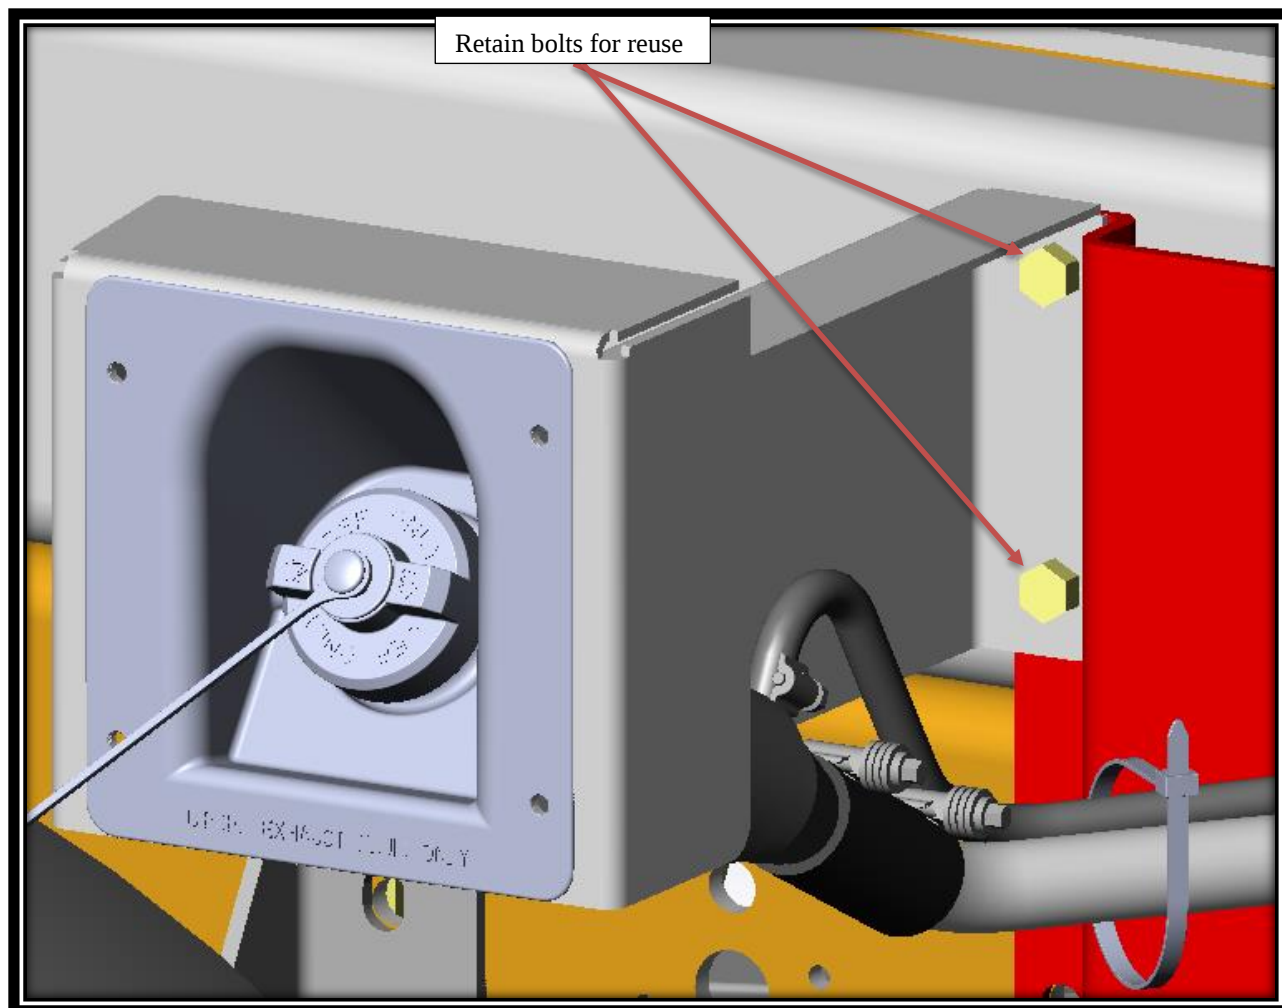

FIG. 4-1
8. Unbolt bracket from frame by removing two ½" bolts. Retain for reuse. Refer to FIG. 4-1.